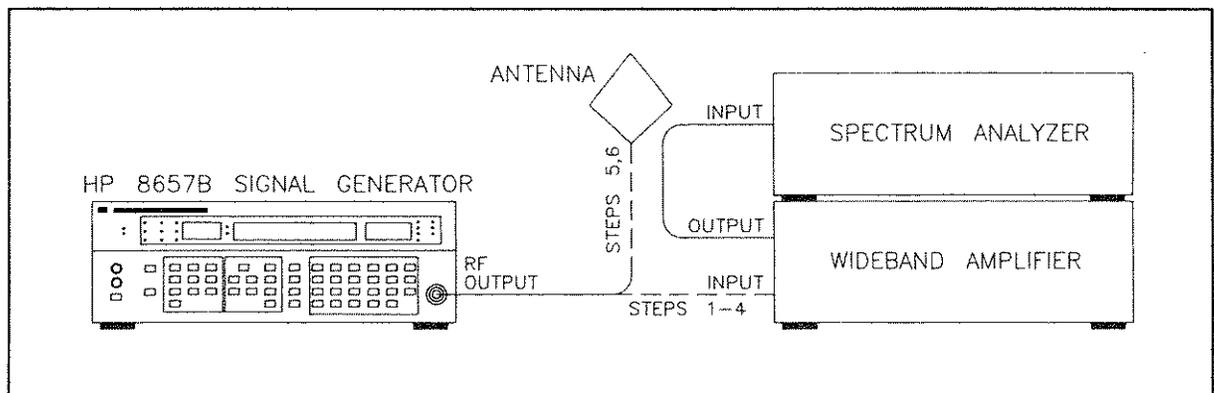

Figure 4-15. Output Leakage Test Setup
1. Connect equipment as shown in Figure 4-15, for the signal path shown as 1-4.
5. Connect the one-inch loop antenna to the analyzer through the amplifier as shown in Figure 4-15, for the signal path shown as 5,6. Hold the end of the loop antenna cylinder in contact with the front surfaces of the HP 8657B. All signals and noise should be below the reference graticule line (i.e., below -107 dBm).